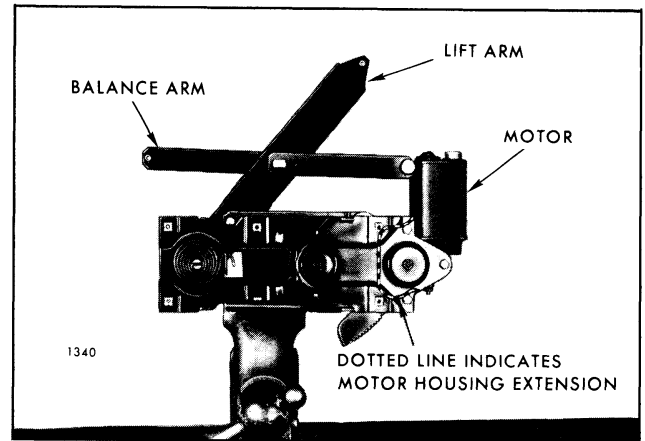

Fig. 6-37-Window Regulator Shown, Quarter Window Regulator Similar.
1. Remove front quarter window electric regulator and clamp assembly in a vise (Fig. 6-37).
**CAUTION:** DO NOT drill into the motor housing, part of which is indicated by the dotted line illustrated in Figure 6-37. In addition, locate hole sufficient distance from edge of sector gear to insure proper retention of sector gear to back plate.
4. Remove regulator motor attaching bolts and remove motor from regulator assembly (Fig. 6-37).